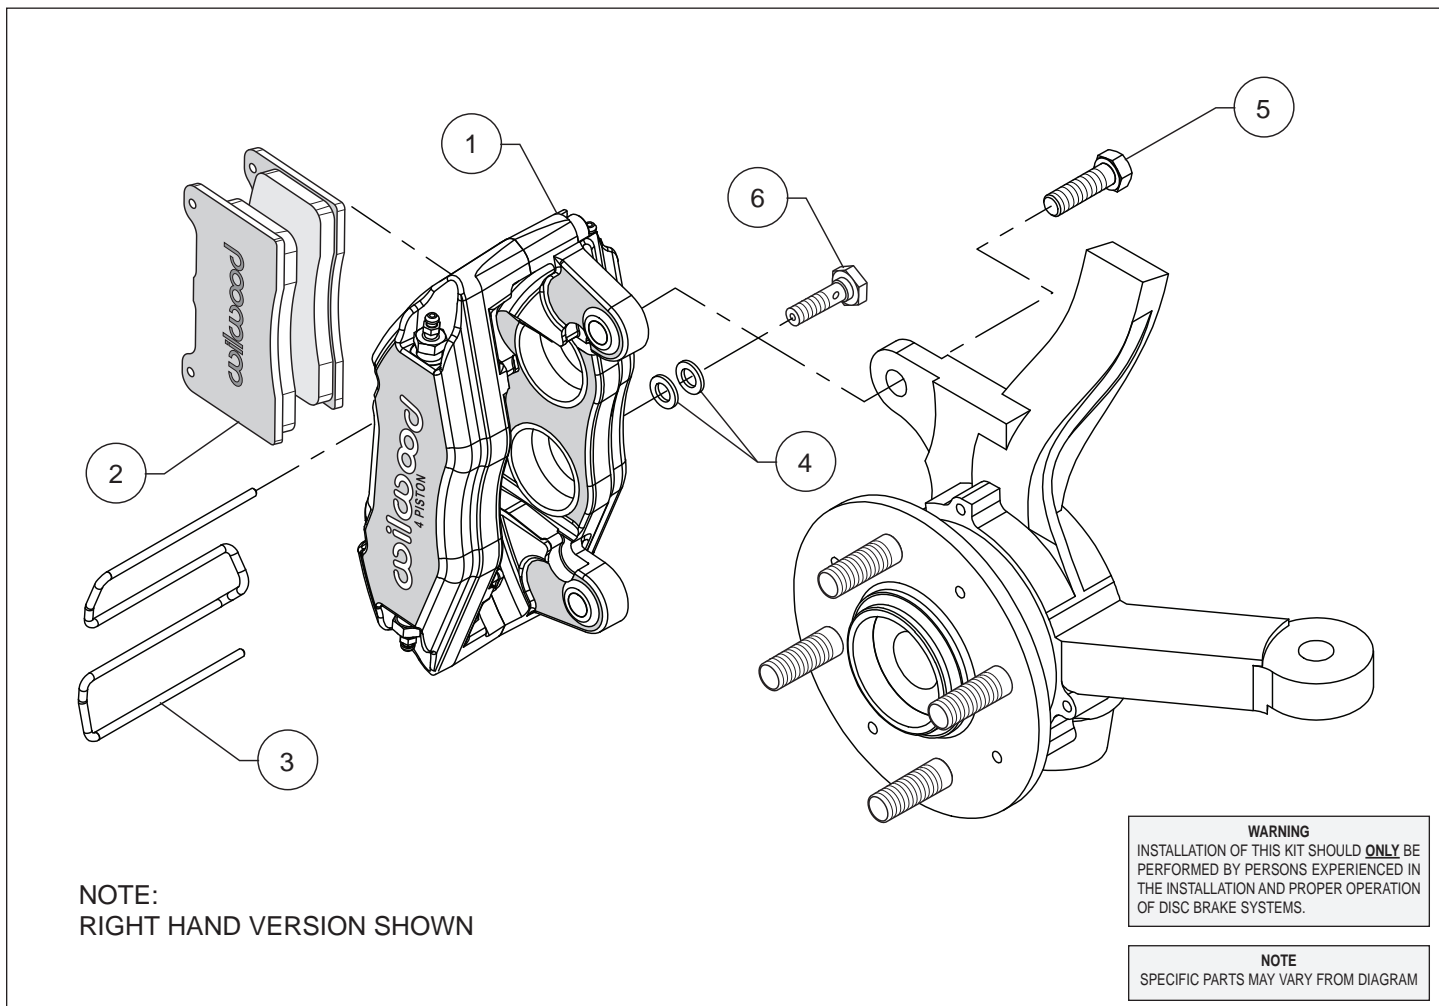

Figure 1. Typical Installation Configuration
Assembly Instructions (numbers in parenthesis refer to the parts list and Figure 1 on the preceding page):
• Mount the new Wilwood caliper (1) onto the axle hub caliper mounting bosses using bolts (5) as shown in Figure 1 and Photo 1. Apply red *Loctite*® 271 to the bolt threads and torque to 60 ft-lbs.
• Install the disc brake pads (2) into the caliper, with the friction material facing the rotor, and secure in place using pad clip retainer (3), Figure 1 and Photo 2.